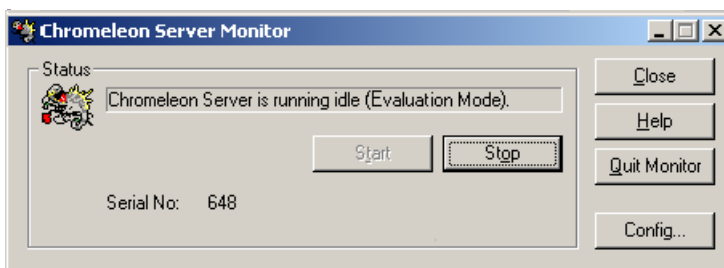

Figure 6. Server Evaluation Mode
- If “Chromeleon Server is running idle (Evaluation Mode)” is displayed (see Figure 6), the license Key Code has not yet been entered. If this is the case, go on to Step 6.